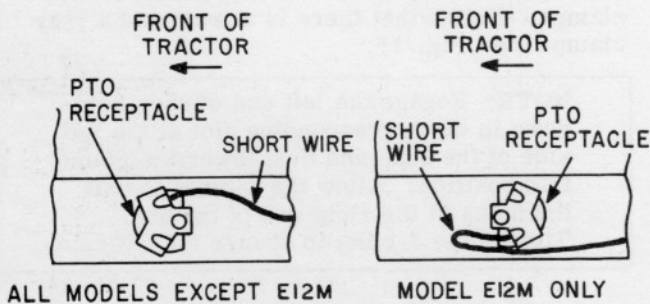

Figure 7. PTO Receptacle Wiring
7. Install the stripped end of the short wire to the rear of the PTO receptacle with existing wire number 24 as shown in Fig. 7.